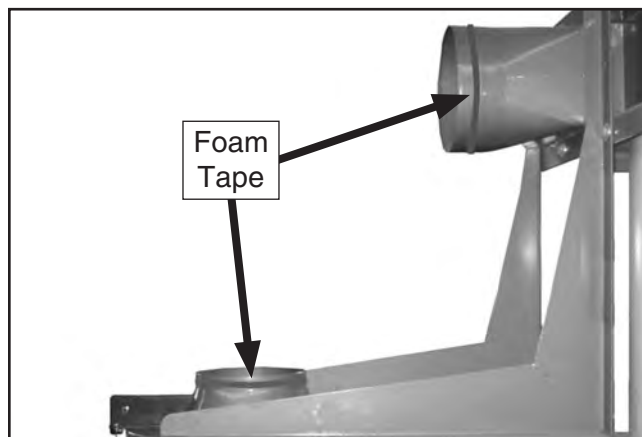

Figure 21. Foam tape applied to the outlet port and canister adapter.
14. Apply the 3 x 15mm foam tape to the edges of the outlet port and the canister adapter, as shown in **Figure 21**.